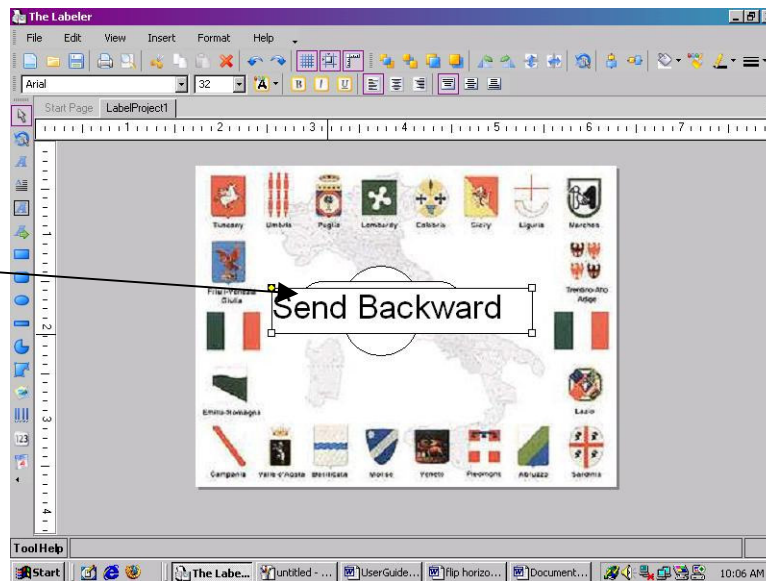

Figure 4.3.8.1: Select the object to send backward
2. Select the Send Backward  tool from the formatting tool bar or from the format menu (see Figure 4.3.8.2).